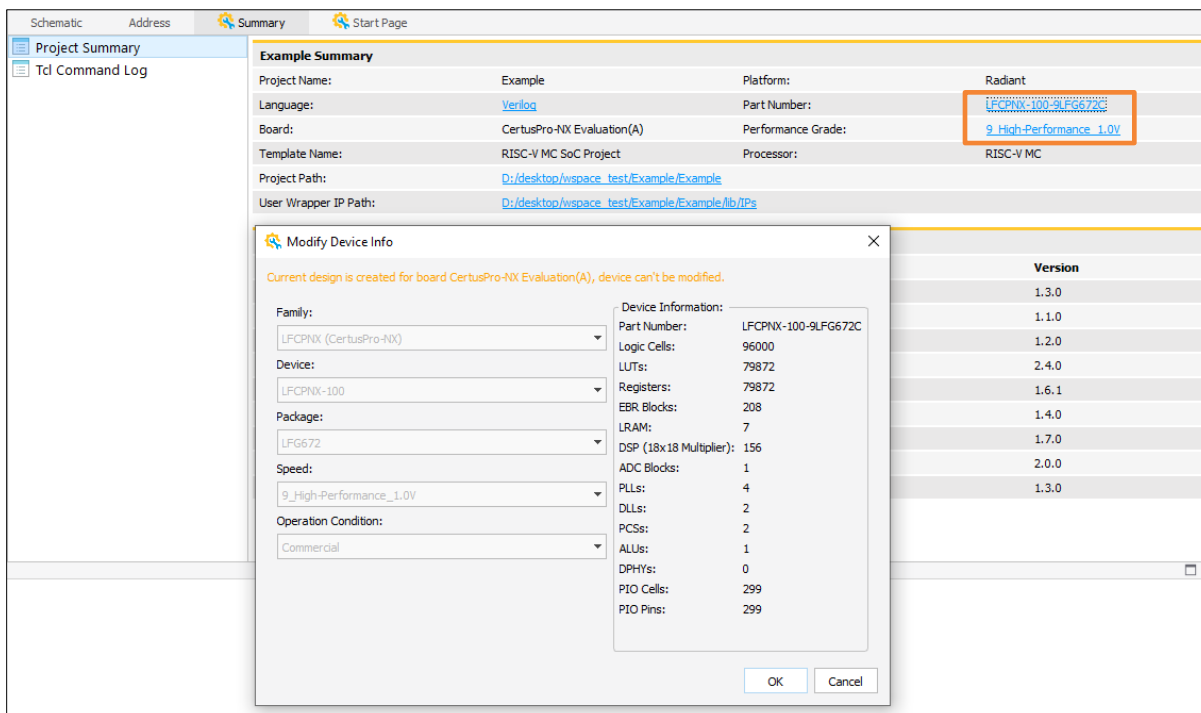

Figure 2.14. SoC Project Summary – Part Number or Performance Grade
- Click **Part Number** or **Performance Grade** link in **Summary** (Figure 2.14) to modify the device info.